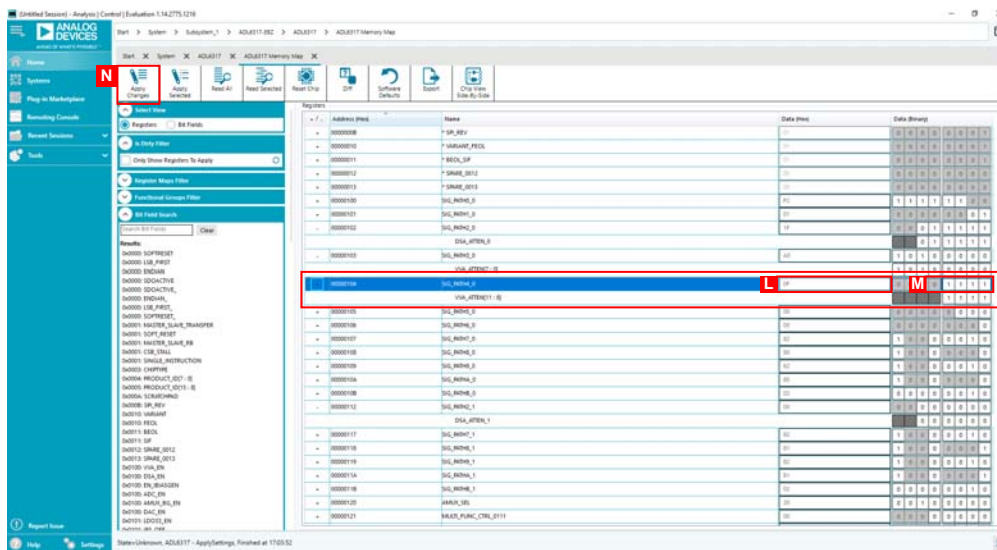

Figure 8. ADL6317-EVALZ ACE Memory Map View
5. To adjust an individual register and bit, click **Proceed to Memory Map**. This button opens the **ADL6317** memory map for bit control (see Figure 8). The **ADL6317** can be configured by either putting data into **Data(Hex)** column or by clicking a specific bit in the **Data(Binary)** column of the register map (see Figure 8). Click **Apply Changes** to save changes and program the **ADL6317**.